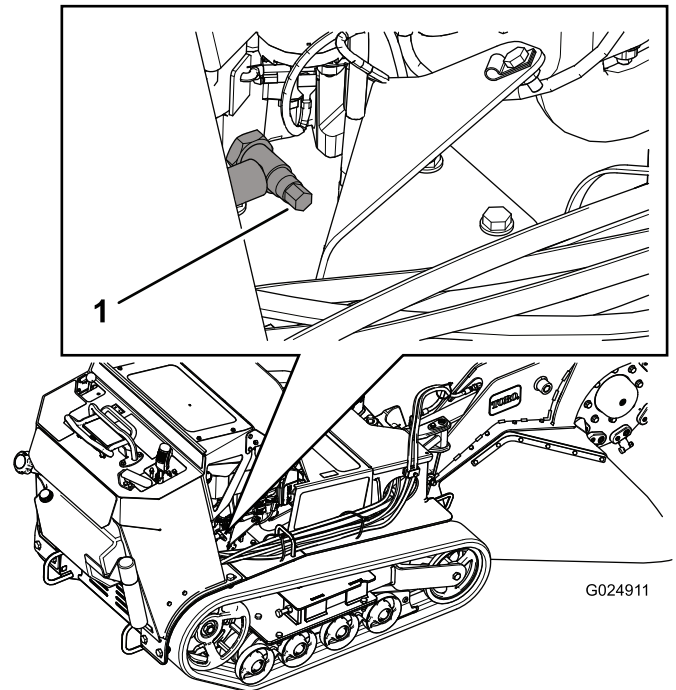
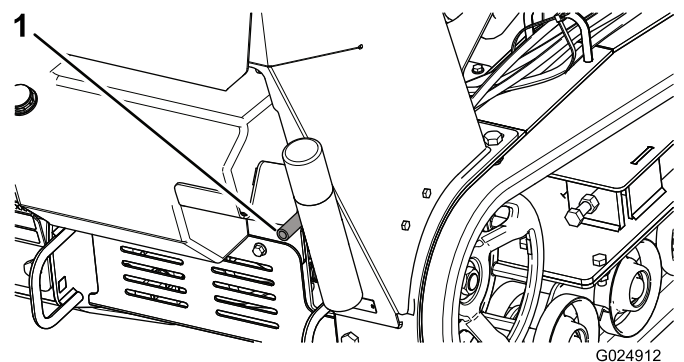

**Figure 32**
**Figure 33**
4. Place a pan below the drain hose. Rotate the oil drain valve to allow oil to drain (Figure 32 and Figure 33).